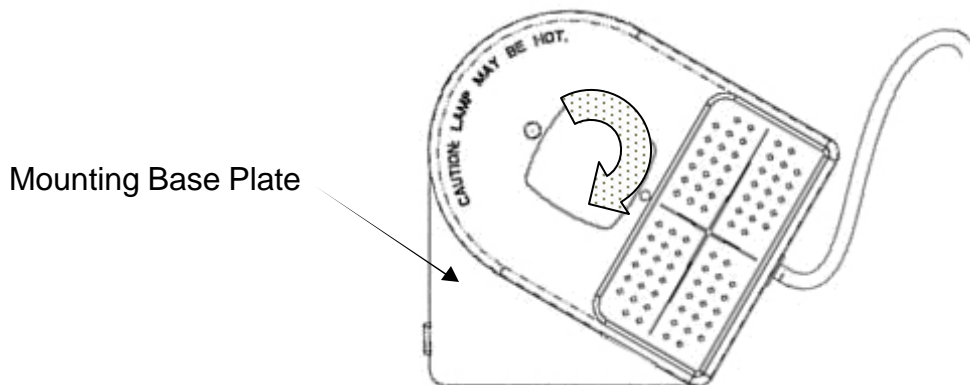

Figure 8 – Position lamp assembly for insertion into base plate
7. Insert the bulb into the base mounting plate with the lamp unit at the approximately 3 o'clock position. Continue pushing downward gently and rotate unit clockwise until the unit is fully locked into position. See Figure 8.